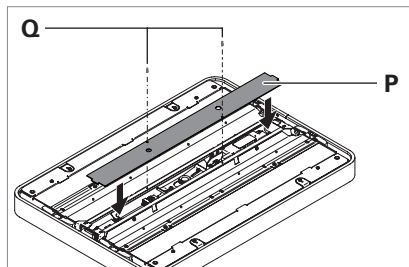

Fig. 12: Mounting the cover.
- Place the cover **P** on the light head, see Fig. 12.